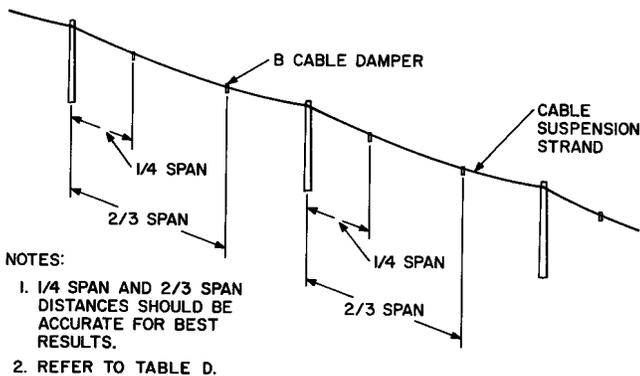

Fig. 13—Spacing B Cable Dampers 151- to 600-Foot Spans
4.24 To effectively reduce or prevent cable dancing, the B Cable Dampers must be installed as indicated in Table D. Where winds are unusually severe, it may be necessary to use an additional damper. For spans of 150 feet or less the additional damper should be placed at the 1/4-span point and for longer spans at the 1/2-span points (Fig. 13).